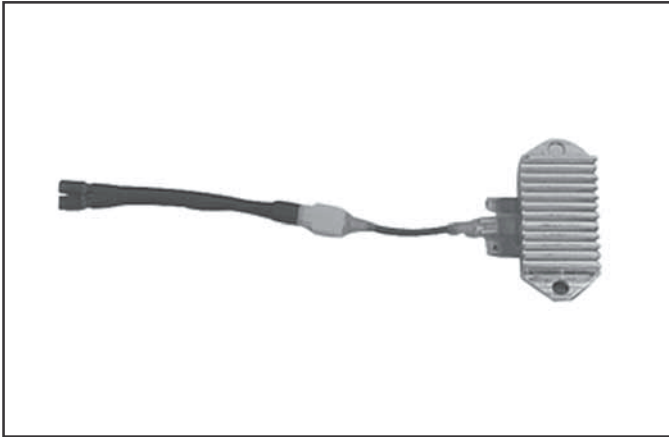

Figure 2.
1. Connect the single lead adapter in between the B+ (center) terminal of rectifier-regulator being tested and the squared single end of tandem adapter lead. See Figure 2.
5. Plug the tester into a 110 volt AC outlet/power supply and turn on the power switch. The "POWER" light should be illuminated and one of the four status lights may be on as well. See Figure 2. This **does not** represent the condition of the part.